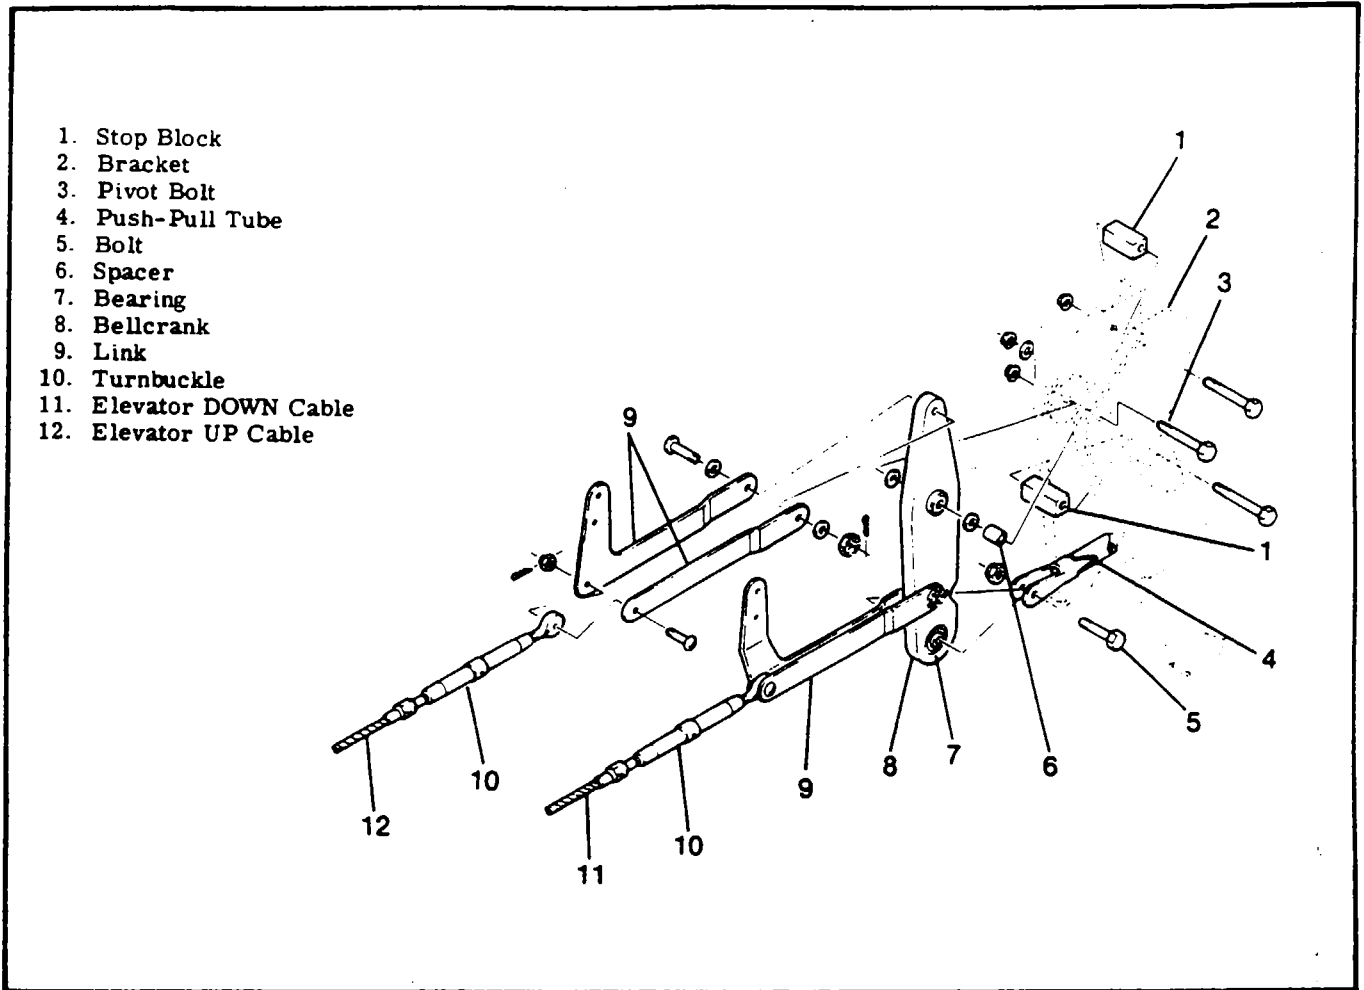

Figure 8-3. Elevator Bellcrank Installation
## 8-8. BELLCRANK. (Refer to figure 8-3.)
- b. Remove safety wire and relieve cable tension at turnbuckles (9).
- c. Disconnect cables at control column arm assemblies (3).
- d. Disconnect cables at bellcrank links (index 16, figure 8-3).
8-14. RIGGING. (Refer to figure 8-3.)